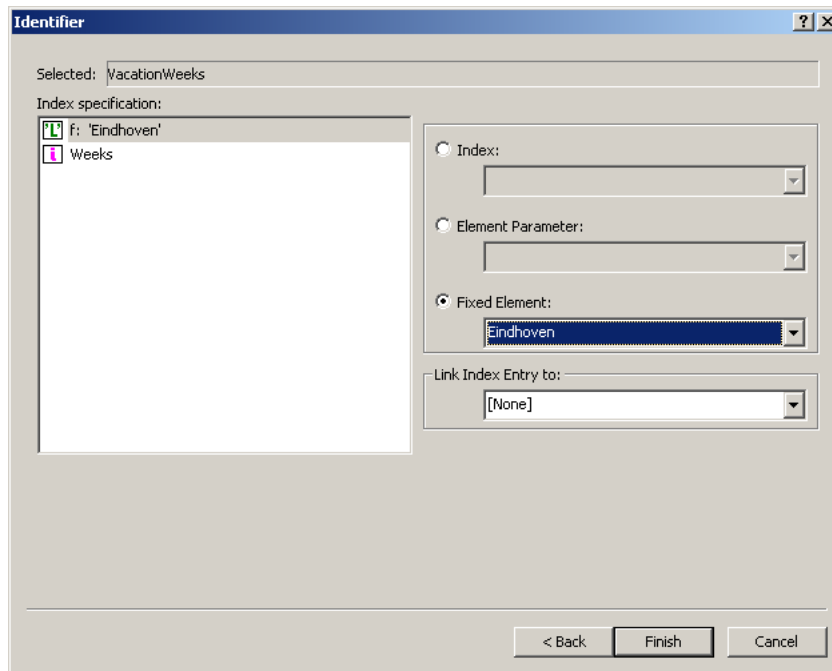

Figure 12.14: The contents of the identifier wizard box
- ▶ select 'Eindhoven' as the 'Fixed Element' of the index `f` as shown in Figure 12.14